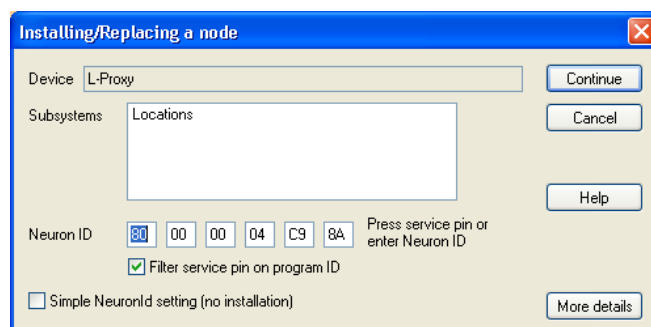

Figure 93: NL-220 node replacement dialog.
2. This opens the device replacement dialog box (see Figure 93).